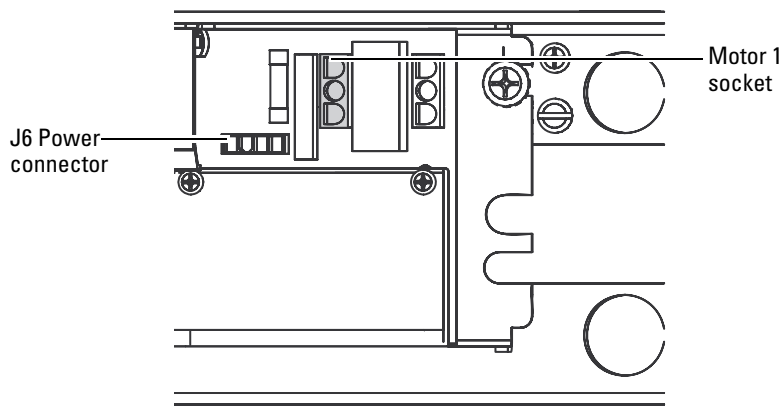

Figure 1.18 Front view of the back plate showing motor connector 1
4. Mate the motor connector plug to motor socket 1. See Figure 1.18.